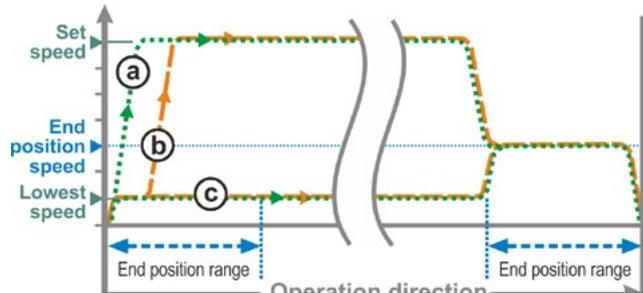

Fig. 2: End position speed 'Quick start'
- For **travel-dependent** cut-off, it will be immediately changed to the set speed to keep the runtime as short as possible. Refer to fig. 2, curve a.